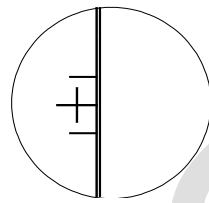

Fig.7-3
8.4 Rotate right drum to let two line closely until no gap, then press “CLR” (Fig.7-3) .